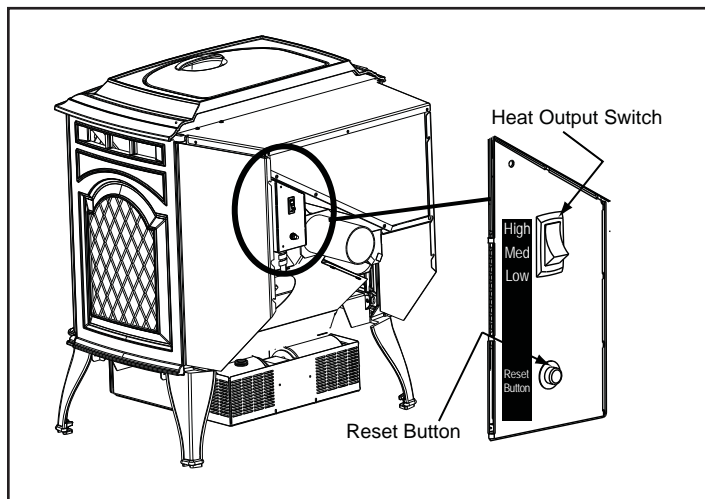
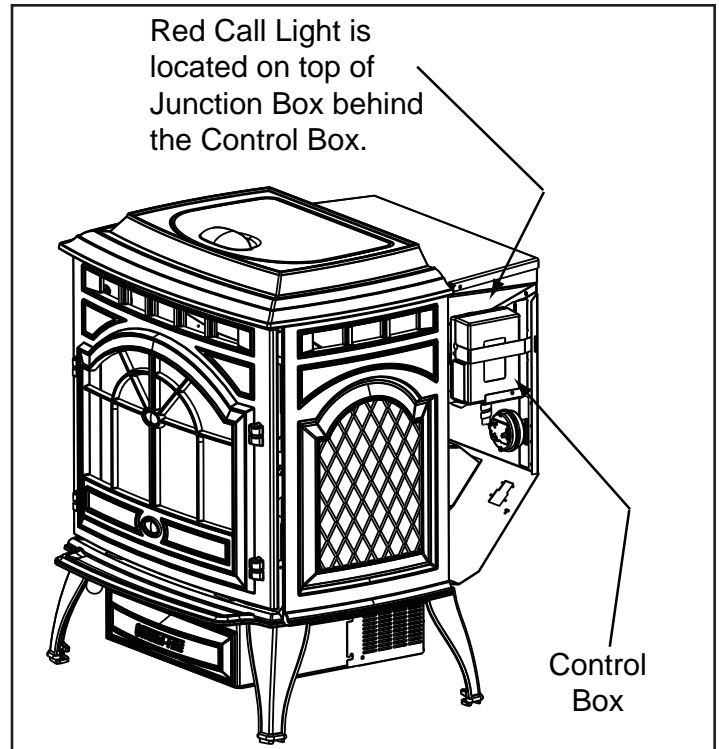

Figure 8.1
Figure 9.2
3. Locate the heat output control switch mounted on the back of the appliance in the upper right corner. **Figure 8.1.** Turn it to the "high" setting by pushing the top of the control switch in and then adjust the thermostat to its highest setting. Remove the right side panel and the red call light located to the left of the control box will be on. **Figure 9.2.** This indicates the thermostat is calling for heat.
3. Occasionally the appliance may run out of fuel and shut itself down. When this happens, the red call light will be on. **See Figure 9.2.** To restart it, fill the hopper and press the reset button. **See Figure 8.1, page 8.** When you press the reset button the red call light will go out. Release the button and the light will come back on. You should see a fire shortly. If not, follow the instructions on **page 8**, of “Starting Your First Fire”.